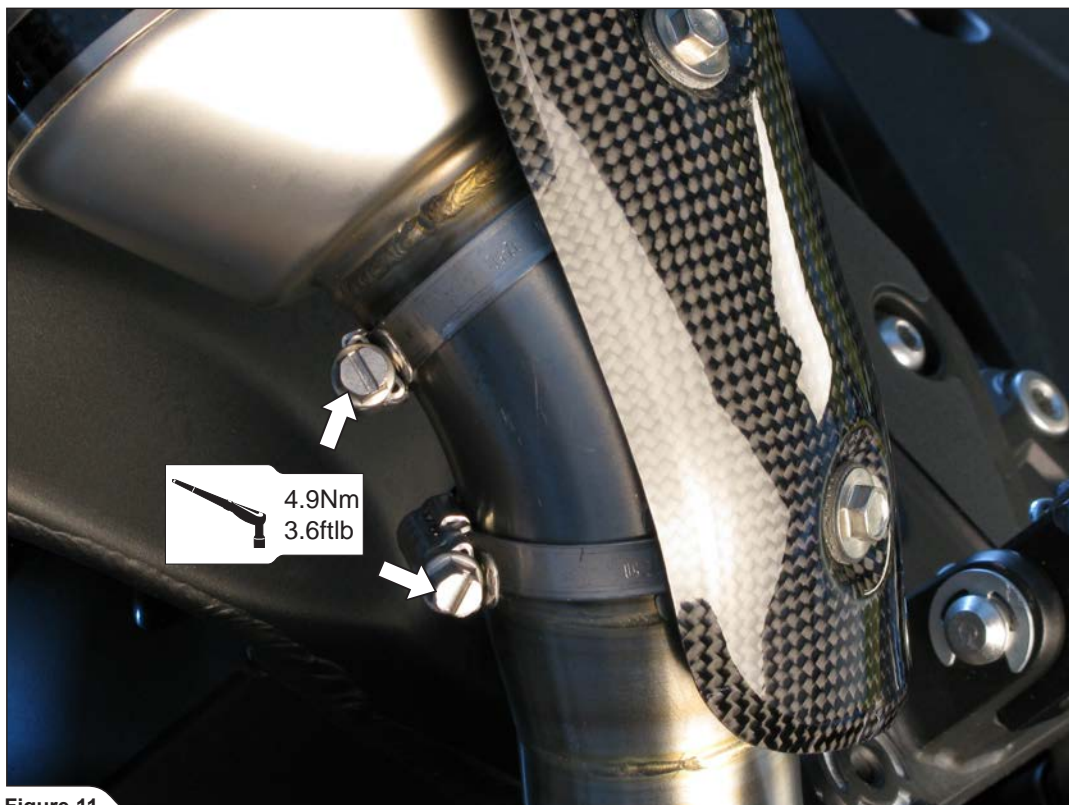

Figure 11
6. Readjust the heat shields if necessary and tighten the tape clamps to the specified torque (Figure 11, 12).